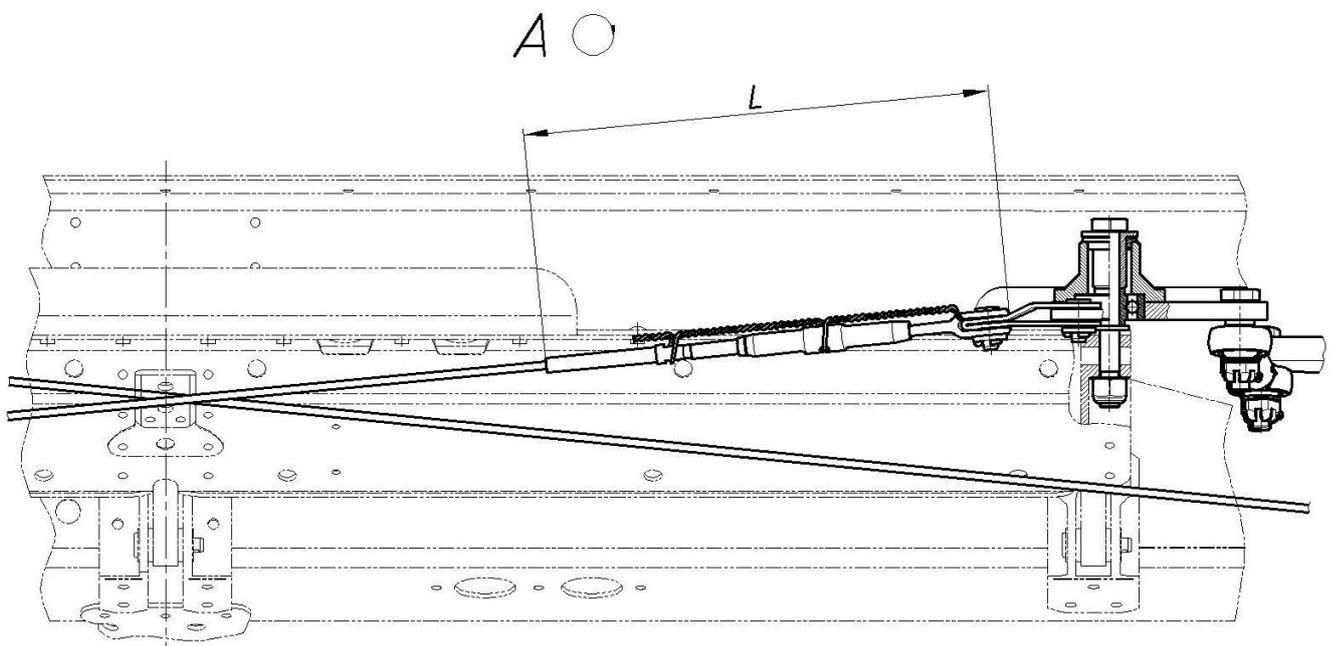

Fig. 2
3.2.1 Relieve the tension of the control cables of the roll control system. For that remove the safety wire from one of the system turnbuckles and undo its barrel (see fig. 2). It is not recommended to disconnect the turnbuckle completely.
- 3.4.3 Lock the turnbuckles used for releasing/adjusting the control cable tension (see fig. 2).